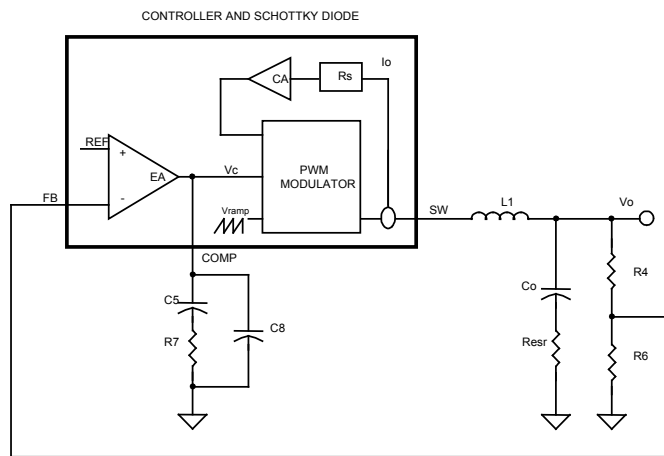

Figure 7. Block diagram of control loops
The goal of compensation is to shape the frequency response of the converter so as to achieve high DC accuracy and fast transient response while maintaining loop stability (see Figure 7).
The block diagram in Figure 7 shows the control loops of a buck converter with the SC4525C. The inner loop (current loop) consists of a current sensing resistor ( $R_s=3.53\text{m}\Omega$ ) and a current amplifier (CA) with gain ( $G_{CA}=18.5$ ). The outer loop (voltage loop) consists of an error amplifier (EA), a PWM modulator, and an LC filter.
For a converter with switching frequency  $F_{SW}$ , output inductance  $L_1$ , output capacitance  $C_o$  and loading  $R$ , the control ( $V_c$ ) to output ( $V_o$ ) transfer function in Figure 7 is given by: